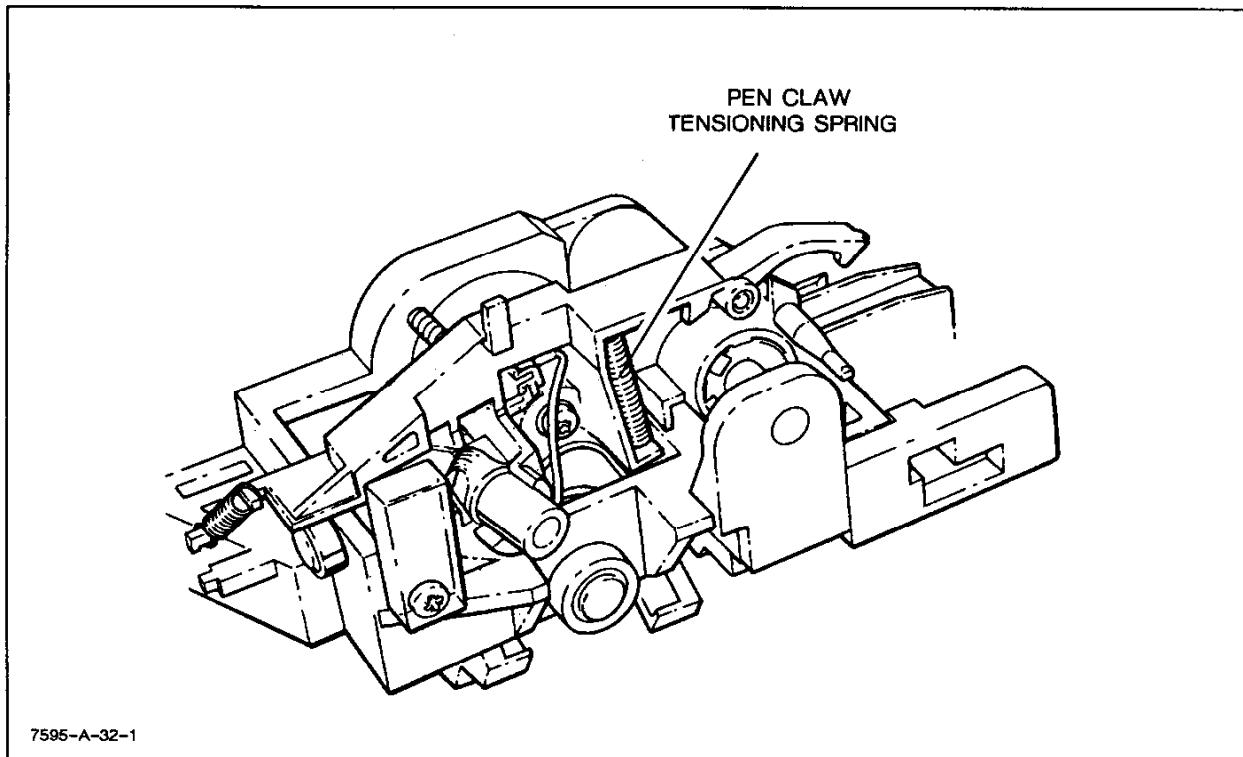

Figure 6-23. Pen Claw Removal
- a. Turn the plotter line switch to OFF (O) and disconnect the ac power cord.
g. Remove the pen claw tensioning spring from the bottom of the pen carriage by compressing the spring at the end closest to the pen claw with a small flat-blade screwdriver. See Figure 6-23.